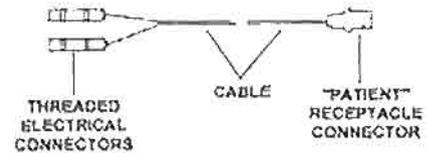

Figure 1-11. Patient return electrode cable assembly.
i. Patient return electrode cable assembly (fig 1-11). This cable assembly consists of a two-conductor electrical cable, a front panel "PATIENT" receptacle connector, and two single conductor electrical connectors which thread onto the patient return electrode threaded lugs.